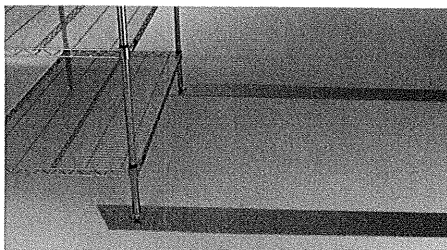

Fig. 2
4. Take additional pads and butt them up against the sections already on the floor (Fig. 2). Moving the mobile units to one side will help in laying out the pads. The last set of pads should be centered and extend under the stationary posts as outlined in step no. 3.